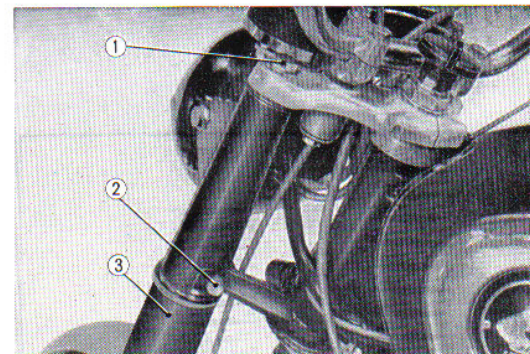

Fig. 4.18 Removing the front fork assembly
3. Unscrew the headlight case mounting bolts attaching the headlight assembly to the front fork. Remove the 10mm bolt from the back side of the lower bottom bridge and slide the cushion assembly out from the bottom. (Fig. 4.18)